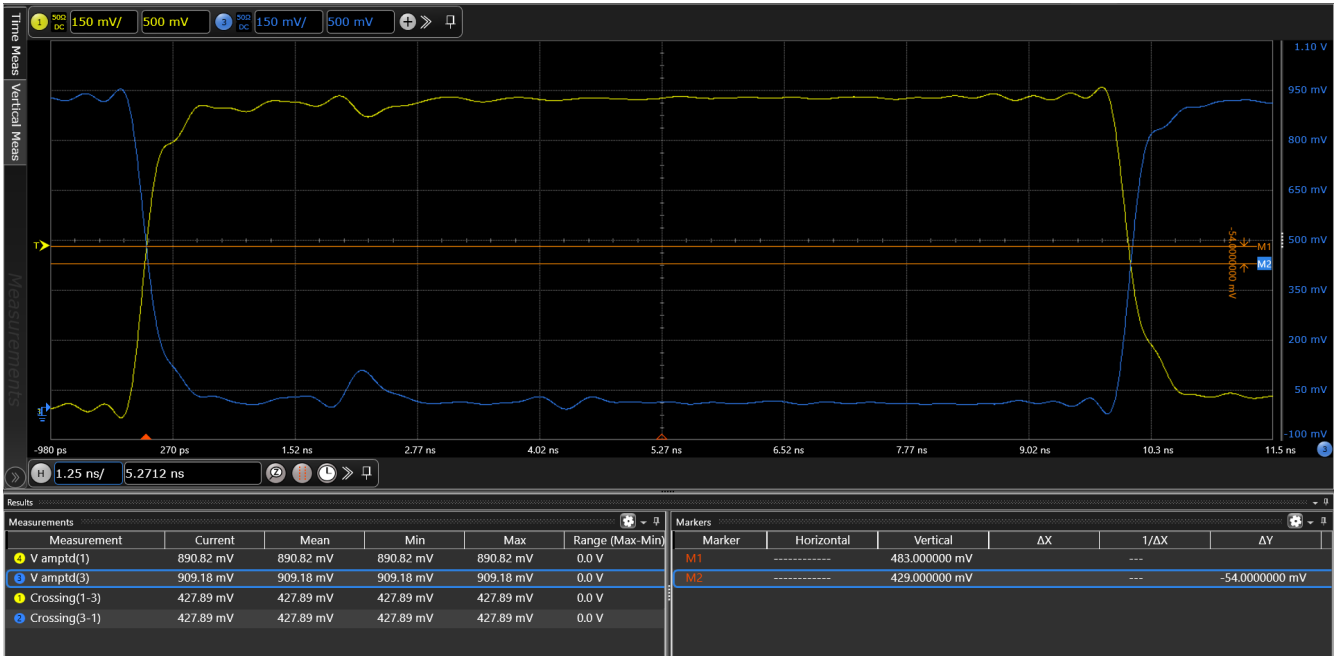

Figure 20. Vcross – HCSL External Termination, Boost = 15% on OUT0 (yellow trace) and nOUT0 (blue trace)
- Figure 20. Vcross – HCSL External Termination, Boost = 15% on OUT0 (yellow trace) and nOUT0 (blue trace)11